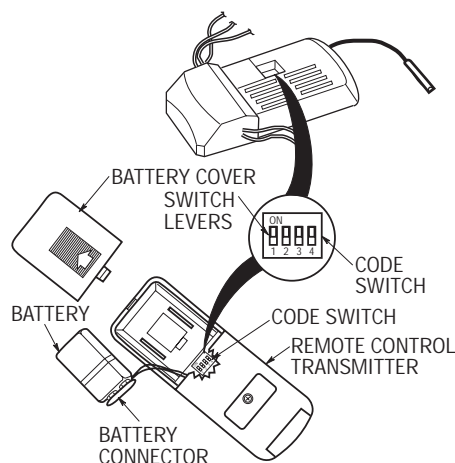

Figure 1
- 1. Remove the battery cover by pressing firmly below the arrow and sliding the cover off the control (Figure 1).
- 1. On the remote control transmitter, locate the code switch just above the battery compartment (Figure 1).
- 3. In the receiver (Figure 1), slide the four switch levers to the same positions as set in the transmitter. Make sure the levers on both switches are in the same positions, otherwise the fan will not operate.